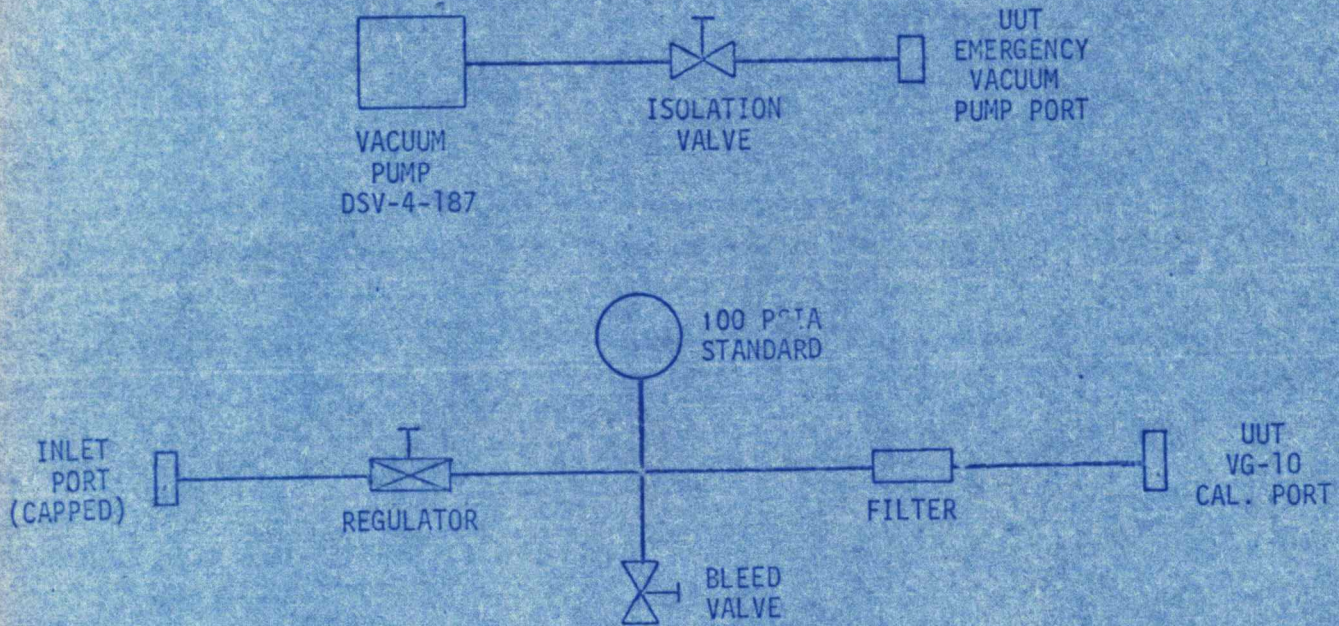

FIGURE 1. VACUUM SETUP (SAT V)
- (A) THE 1/4 INCH BULKHEAD VACUUM LINE SHALL BE DISCONNECTED FROM HAND VALVE VH-67. A PRESSURE PLUG SHALL BE INSTALLED ON THE 1/4 INCH VACUUM LINE.
- (B) CLOSE ALL CONSOLE HAND VALVES AND REGULATORS.
- (C) CONNECT THE EQUIPMENT AS SHOWN IN FIGURE 1.
- (D) OPEN VALVE VH-68.
- (E) TURN ON EXTERNAL VACUUM PUMP AND OPERATE THE ISOLATION AND BLEED VALVES TO TEST THE VG-10 AT THE FOLLOWING VALUES. EACH INDICATION MUST BE WITHIN TOLERANCE LIMITS LISTED:
(A) FIGURE 1